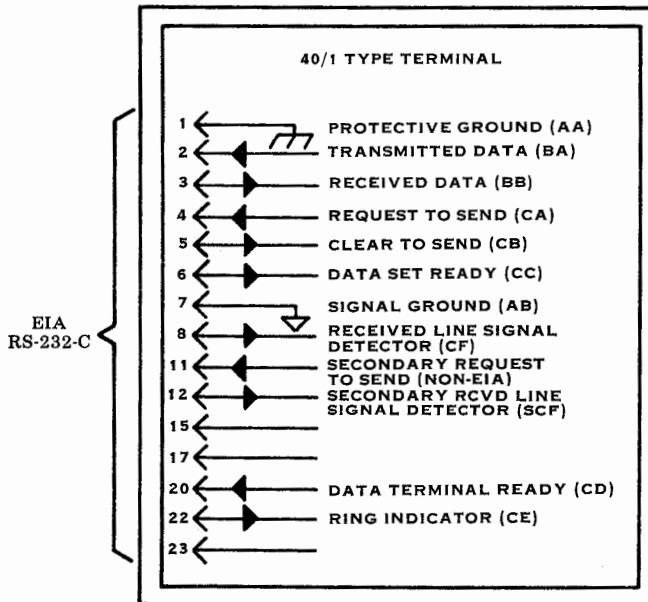

Fig. 18
6.02 Fig. 18 shows the EIA RS-232-C interface signal leads to the 40/1 type terminal.